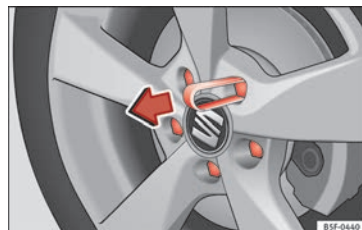

Fig. 70 Wheel: wheel bolts with caps.
- Fit the plastic clip (vehicle tools) over the cap until it clicks into place » » **Fig. 70**.